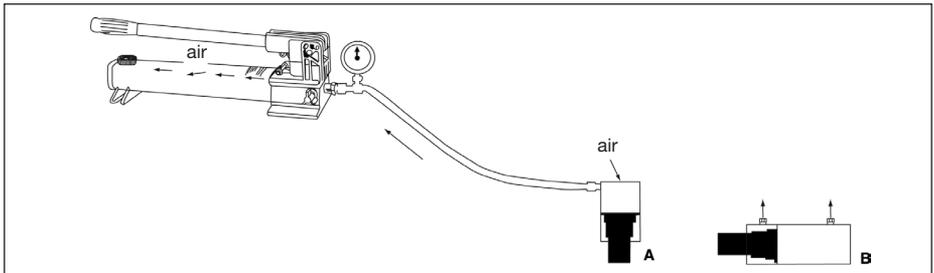

Figure 9
Removing air from the hydraulic system will help the cylinder to advance and retract smoothly (see figure 9).
6.1 Pump With Single-Acting Cylinder (A)
- Position cylinder with the plunger end down (up if using pull cylinder). See Figure 9 below.
6.2 Pump With Double-Acting Cylinder (B)
- Put cylinder in horizontal position with ports up. See Figure 9.